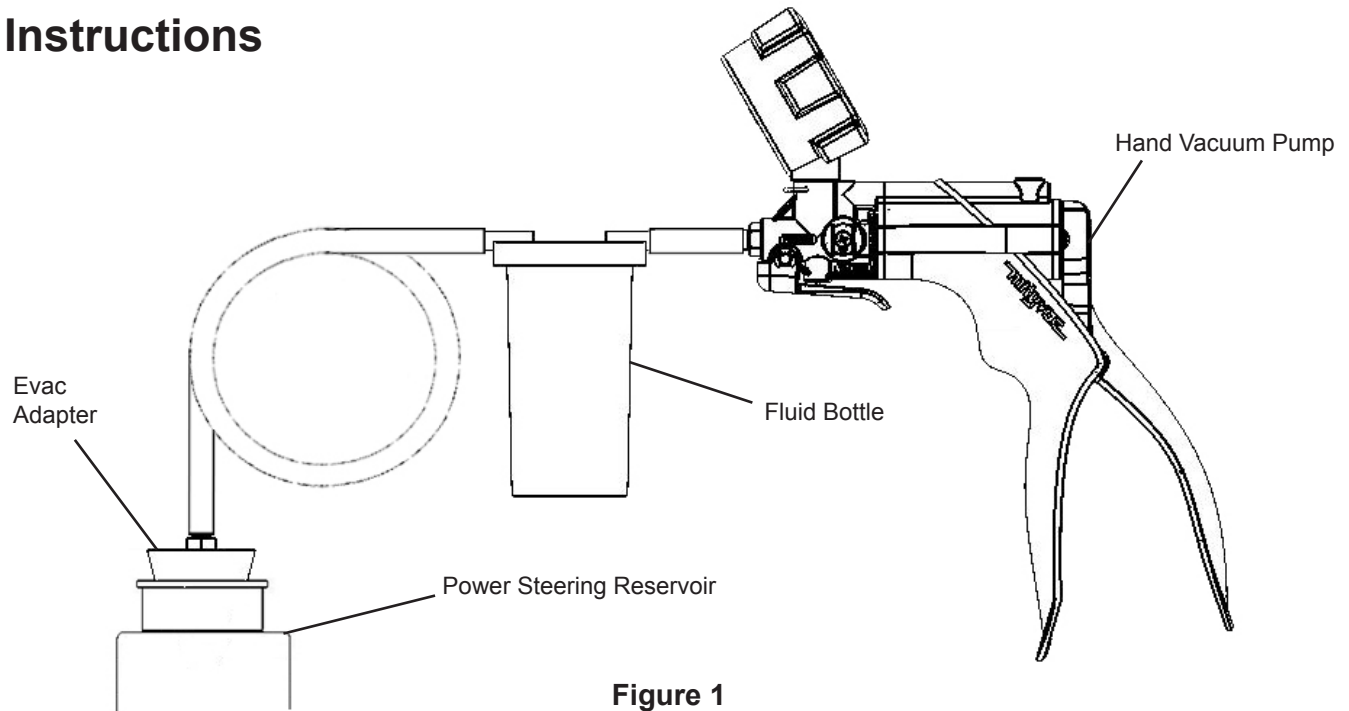

Figure 1
3. Connect the hand vacuum pump and reservoir to the evac adapter as shown in figure 1.